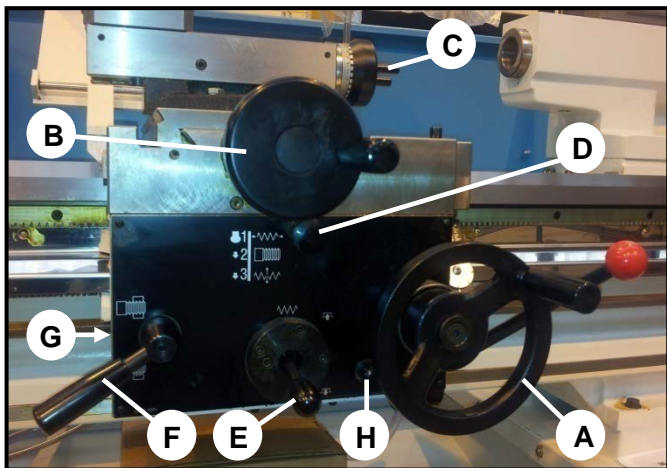

fig. 13
THREAD DIAL INDICATORS (Fig. 13)
APRON AND SLIDE CONTROLS (Fig. 13)
To reset back to original setting engage feed lever (E) Fig. 13. With a screwdriver push in the adjuster rod against the light spring load and slowly turn clockwise until the dog is felt to engage the associate nut. Continue to turn until the required setting is reached.